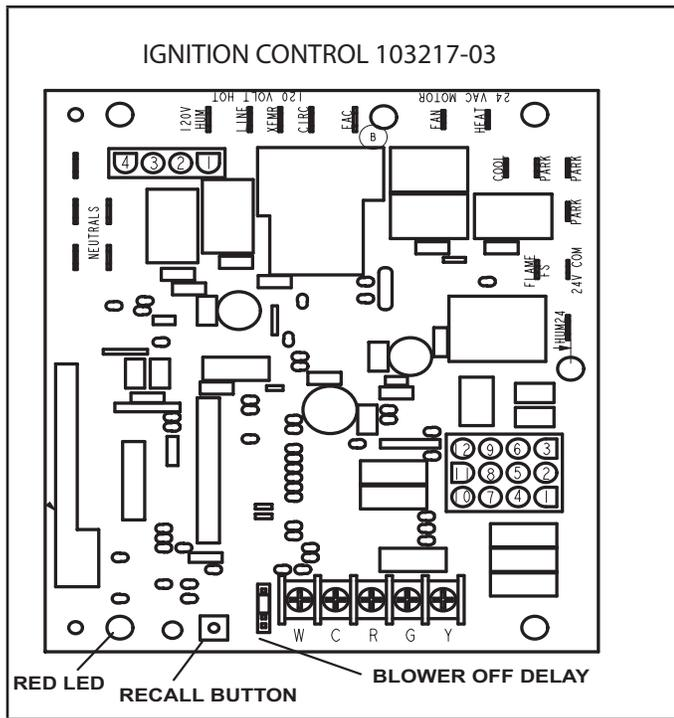

FIGURE 3
The hot surface ignition control system consisting of an integrated control (FIGURE 3 or FIGURE 5 with control terminal designations in TABLE 1, TABLE 2 and TABLE 3), sensor and ignitor (FIGURE 7). The integrated control and ignitor work in combination to ensure furnace ignition and ignitor durability. The integrated control, controls all major furnace operations. The integrated control also features a RED LED for troubleshooting and two accessory terminals rated at (1) one amp. The nitride ignitor is made from a non-porous, high strength proprietary ceramic material that provides long life and trouble free maintenance.